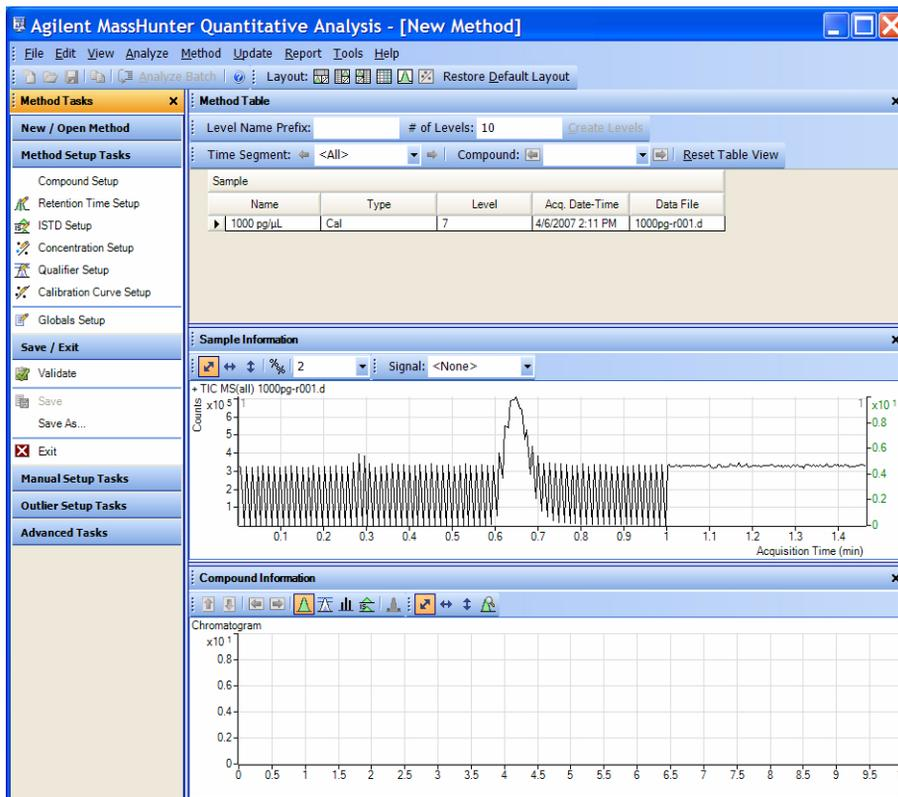

Figure 7 Method Edit mode
The Method Edit Tasks appear in the column to the left of the View, as shown in Figure 7.
- Note that Figure 7 shows the default layout for method editing.